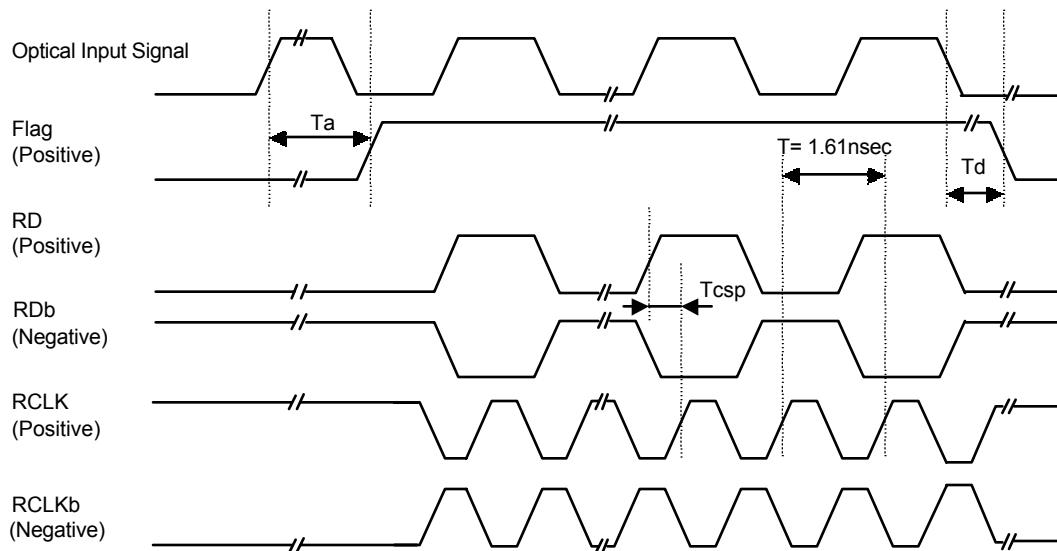

Figure 4. Timing Chart
7. Phase difference between cross point of RD and rising edge of RCLK. Refer to Figure 4.
Note 4. Refer to Figure 4